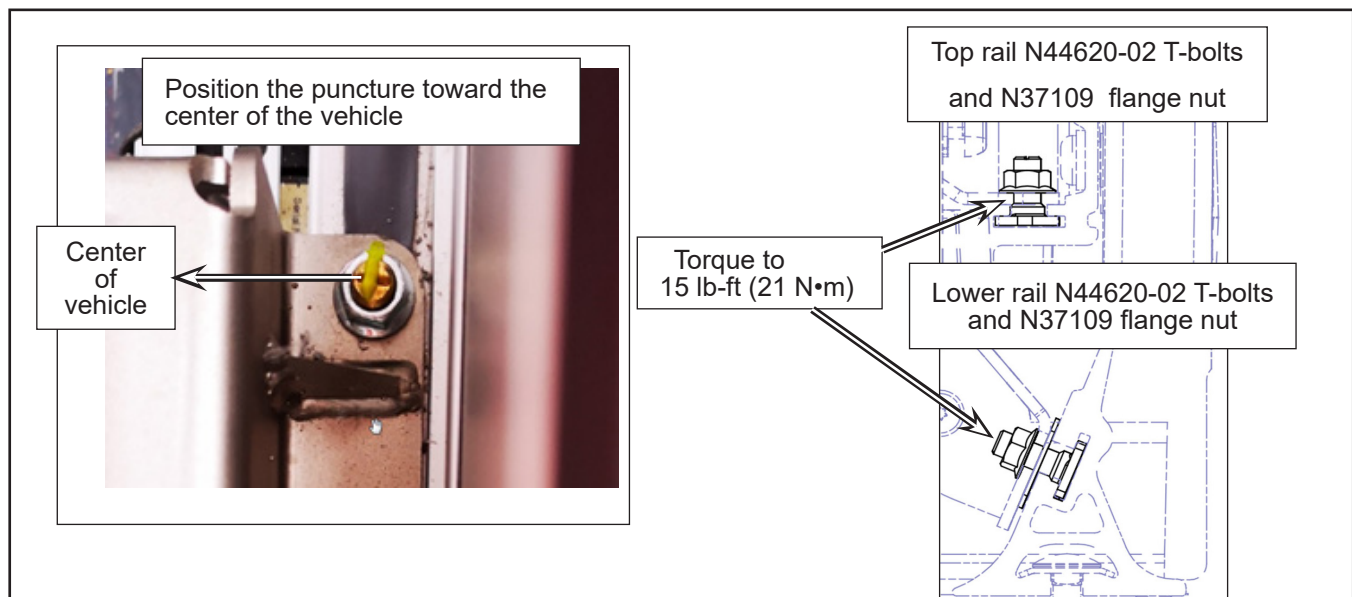

Figure 15 - T-bolts Positioning and Torque Value
- u. Install the retained seats in alignment with the tape placed on the seat anchor rail and wall. See Figure 15.
- w. Hand tighten the N37109 flanged nuts on the T-bolts of all the affected seats. Make sure that the puncture in the T-bolts is facing the center of the vehicle. See Figure 15.
- x. With a torque wrench, apply the torque to all the N37109 flange nuts installed. See Figure 15 for torque value.
- y. Apply torque seal to all the torque nuts. See Figure 15.
- z. Install the retained seat belt(s) with new N44620-02 T-bolt and N37109 flanged serrated nuts. Align the seat belt(s) with tape. See Figure 15 for torque value.